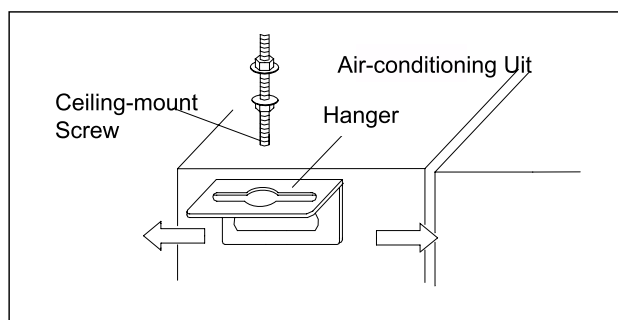
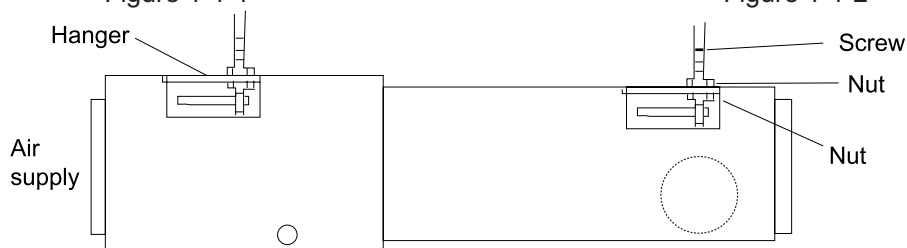

Figure 1-1-2
Figure 1-1-3
- Install the hanger onto the indoor unit as Figure 1-1-2 and Figure 1-1-3 shows.